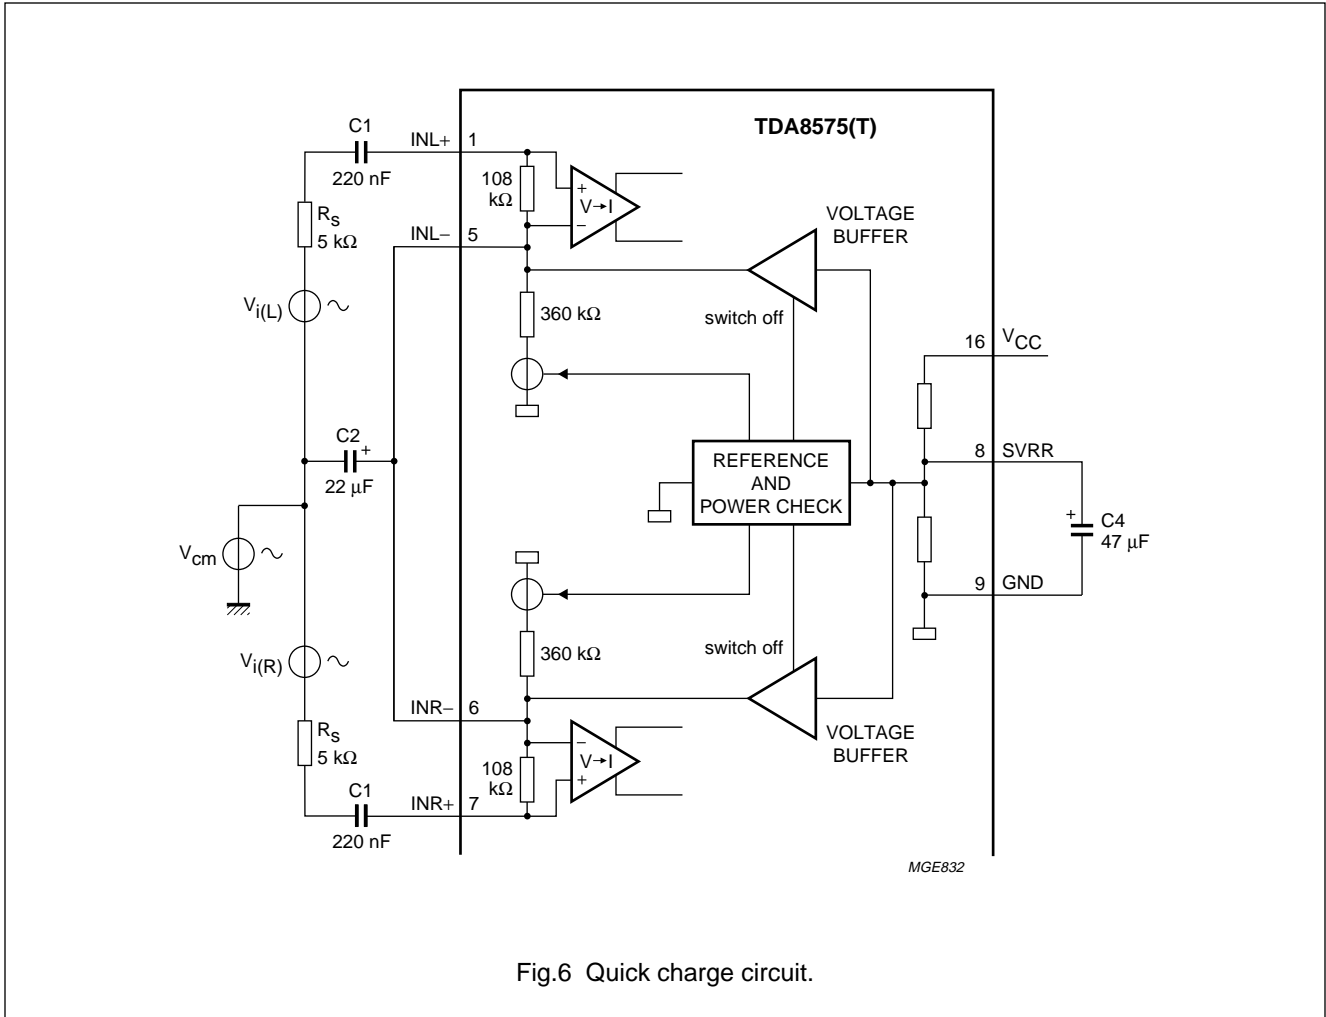

Fig.6 Quick charge circuit.
In Fig.6 the preferred input capacitor values are shown. If the capacitor  $C2 = 22 \mu F$  connected to the IN- inputs had to be charged by the  $0.5V_{CC}$  voltage source a charge time of  $5\tau = 5 \times \frac{360 \text{ k}\Omega}{2} \times 22 \mu F = 20s$  would be required.
This is inconvenient for most applications and therefore the TDA8575(T) is equipped with a quick charge circuit. On power-on the quick charge circuit charges the capacitor C2 connected to the IN- pins. The quick charge circuit consists of a voltage buffer and a control circuit (referred to as 'reference and power check' in Fig.6) that monitors the supply voltage  $V_{CC}$ . If the supply voltage rises more than  $\approx 2 \text{ V}$  the voltage buffer is switched on. After charging C2 the voltage buffer is switched off. The charge time of C2 will equal the charge time of C4, the SVRR capacitor.